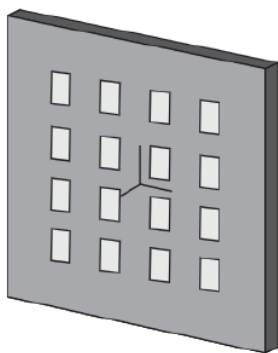

Fig 4.26: 4x4 patch array antenna
- A patch array antenna is, in general, some arrangement of multiple patch antennas that are all driven by the same source. Frequently, this arrangement consists of patches arranged in orderly rows and columns (a rectangular array) as shown in Fig. 4.26.